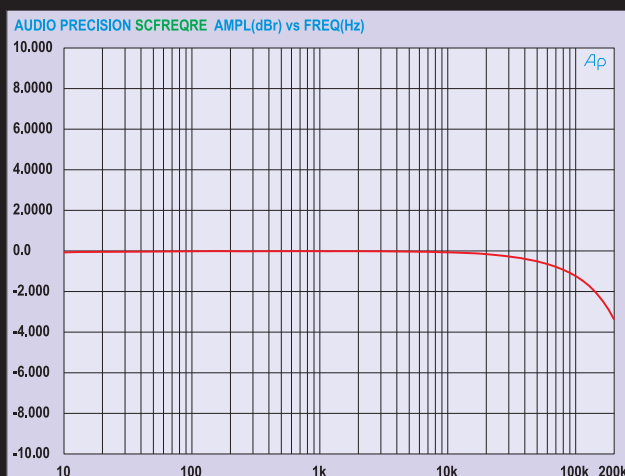

Fig.4: the frequency response is 'ruler' flat over the audible frequency range, with -3dB points at 1.5Hz and 190kHz.
Frequency response is 'ruler' flat, as shown in Fig.4. It is -1dB at 90Hz and -3dB at 1.5Hz and 190kHz. This is a much wider frequency response than the original circuit and comes about because we have used much gentler filtering at the input of the amplifier. We will describe the reasoning behind this later in the article.
-3dB @ 1.5Hz and 190kHz (Fig.4)